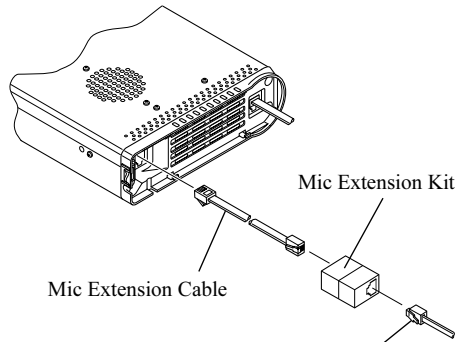

Figure 3 Mic Extension Cable
5. Referring to Figure 3, insert the plug of the Mic Extension Cable into the **MIC** jack on the **FT-857D**, then inset the Mic Extension Cable and microphone cable into the jack of the Mic Extension Kit.